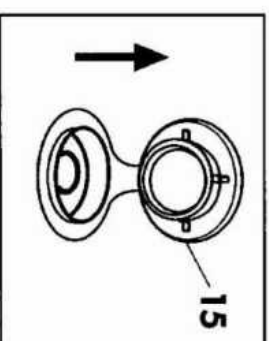

Fig. 8
Pour tap water or foam-free detergents into the detergent tank after lifting the fill cap (15) (**Fig. 8**)